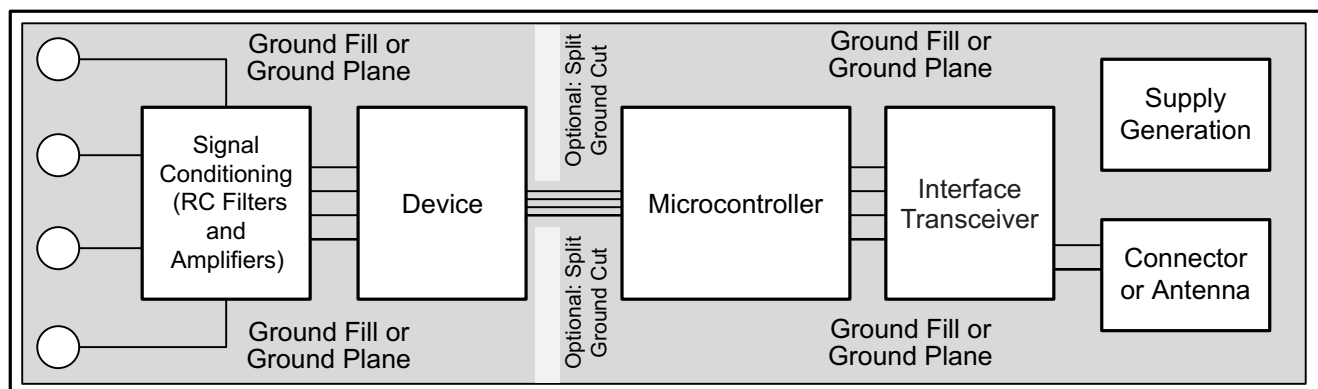

Figure 55. System Component Placement
TI recommends employing best design practices when laying out a printed-circuit-board (PCB) for both analog and digital components. This recommendation generally means that the layout separates analog components [such as ADCs, amplifiers, references, digital-to-analog converters (DACs), and analog MUXs] from digital components [such as microcontrollers, complex programmable logic devices (CPLDs), field-programmable gate arrays (FPGAs), radio frequency (RF) transceivers, universal serial bus (USB) transceivers, and switching regulators]. An example of good component placement is shown in Figure 55. Although Figure 55 provides a good example of component placement, the best placement for each application is unique to the geometries, components, and PCB fabrication capabilities employed. That is, there is no single layout that is perfect for every design and careful consideration must always be used when designing with any analog component.